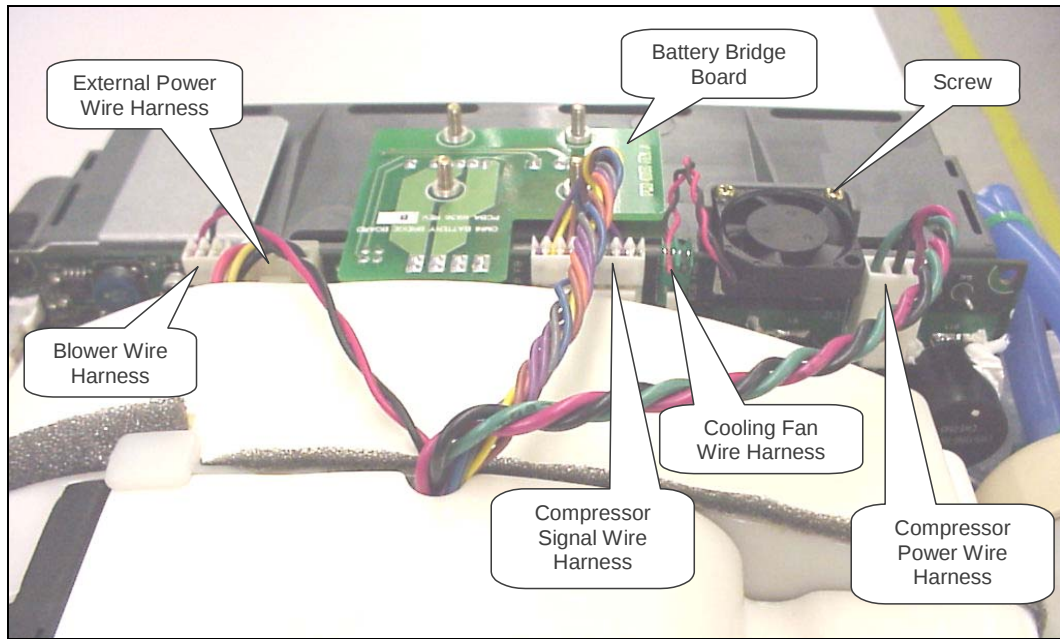

Figure 44: Power Manager PC Board Removal.
3. Disconnect the 5 wire harnesses as shown in Figure 44. Remove the Battery Bridge PCB as shown in Figure 44
4. Unscrew the 2 screws (M2x10 Pan Head Machine Screw, P/N 6961-210) holding the fan shown in Figure 44. Remove fan.
8. Install the fan with the 2 screws and lightly tighten as shown in Figure 44. Apply Loctite 425 Thread Locker on the tips of the screws before installing. Ensure that it is blowing down as indicated by the arrow on the side of the Fan.
9. Install the Battery Bridge PCB and 4 wire harnesses shown in Figure 44.